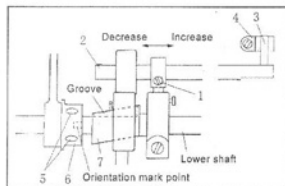

Fig. 22
31. The forward/backward stitch length error adjustment(Fig.22)